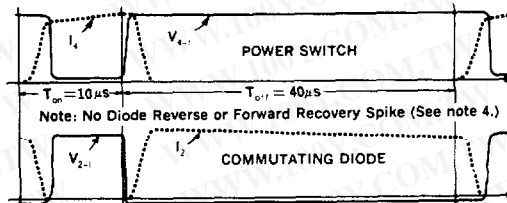

Figure 2. PIC645, 646, 647 Switching Waveforms
- No reverse recovery spike generated by commutating diode (See note 4. and Fig. 2.)
- In switching an inductive load, the current will lead the voltage on turn-on and lag the voltage on turn-off (see Figure 2). Therefore, Voltage Delay Time (t_{dv}) $\approx t_{di} + t_{fi}$ and Current Storage Time (t_{si}) $\approx t_{sv} + t_{fv}$.
- As can be seen from the switching waveforms shown in Figure 2, no reverse of forward recovery spike is generated by the commutating diode during switching! This reduces self-generated noise, since no current spike is fed through the switching regulator. It also improves efficiency and reliability, since the power switch only carries current during turn-on.